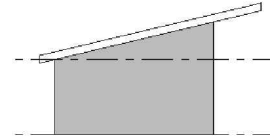

FIGURE 6-1.12 South elevation – shed roof (revised)
47. Switch to the South view to see the change (Figure 6-1.12).